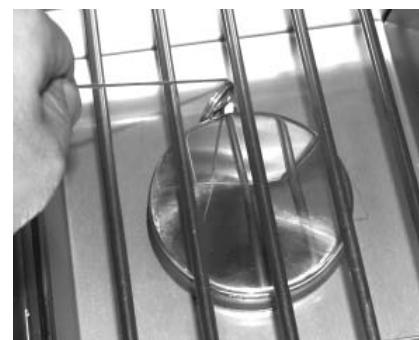

Fig. 21-2 - Manual lighting
2. Insert either a burning long-barrel butane lighter, a burning long-stem match, or a burning match held by a wire extension holder through the cooking grid opening to the burner (Fig. 21-2). Hold the flame against the edge of the burner.
4. If the burner does not light within five (5) seconds of turning the control knob, **immediately depress the knob and turn the valve to OFF**. WAIT FIVE (5) MINUTES before repeating steps 2 through 4 of the MANUAL LIGHTING instructions.